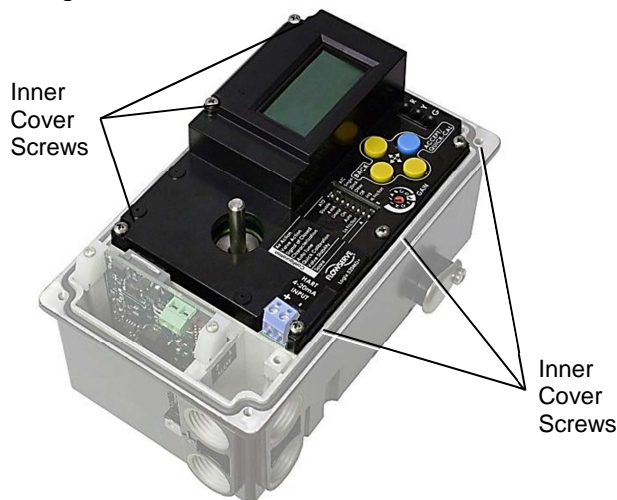

Figure 24: Inner Cover
- 4 Remove the inner cover. See Figure 24: Inner Cover above.
- 8 Remove the inner cover by removing the 6 retaining screws. See Figure 24: Inner Cover.